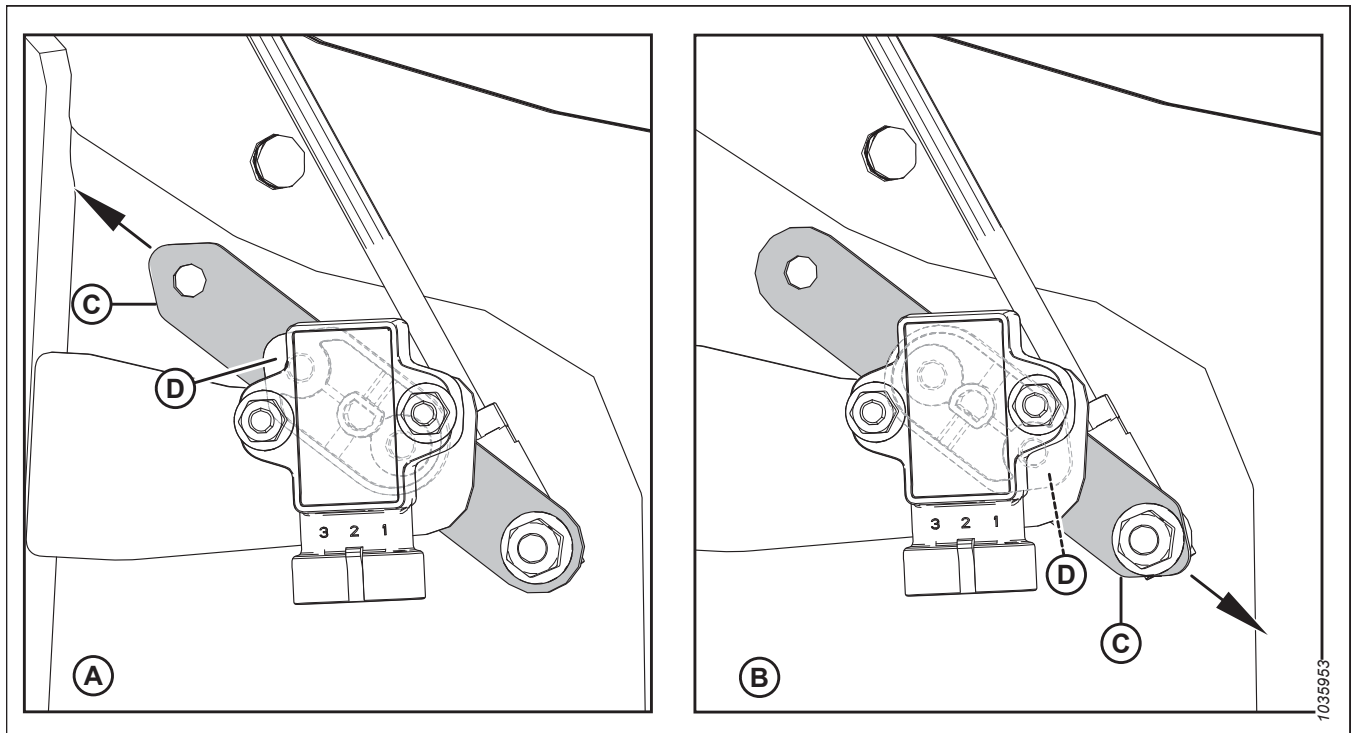

Figure 3.262: Sensor Arm/Pointer Configurations
- Ensure that sensor arm (C) and pointer (D) are configured properly for the header. For instructions, refer to Figure 3.262, page 193.